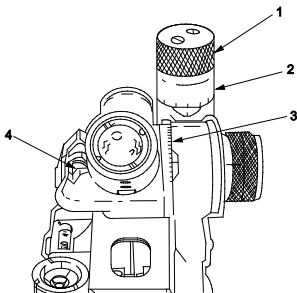

Figure 4. Aiming Circle Elevation Controls.
1. The elevation knob (Figure 4, Item 1) adjusts the elbow telescope elevation. The elevation micrometer scale (Figure 4, Item 2) is numbered at 10-mil intervals, with each graduation being 1 mil. The black numbers 0-100 mils read elevation and the red numbers 0-100 mils read depression.
2. The elevation scale (Figure 4, Item 3) is numbered at 100-mil intervals, with each graduation being 100 mils. The black numbers 0-1100 mils read elevation and the red numbers 0-400 read depression.
3. The elbow telescope tube level (Figure 4, item 4) shows when the elbow telescope is level.